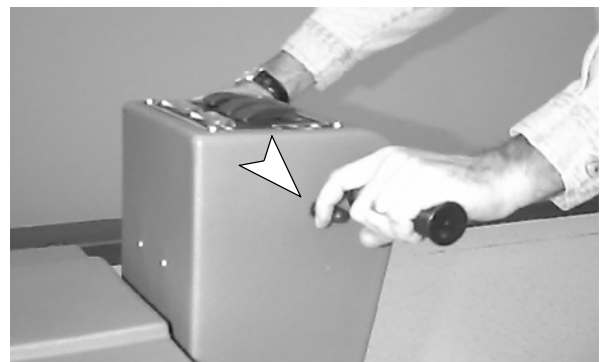

FIG. 15
6. To operate machine in reverse, simply pull reverse trigger, one speed (Figure 15).